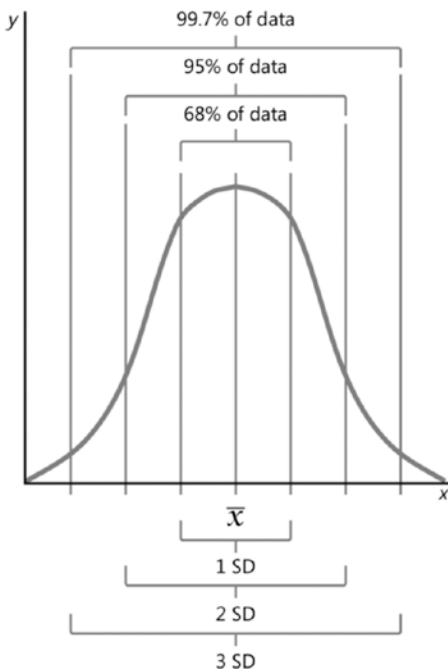

Figure 4-10. A curve showing standard deviations
Figure 4-10 shows a normal distribution and the range of a population you would expect to find with either one, two, or three standard deviations (SD) either side of the mean.